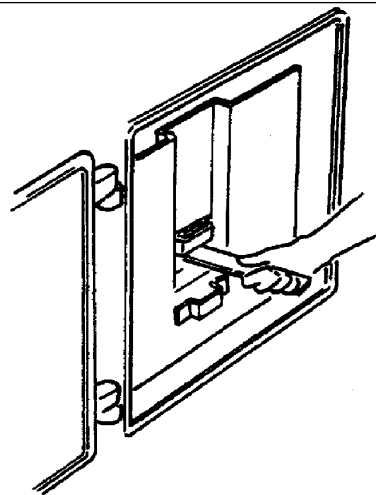

Fig. 7
- De-ash (Fig. 7) and remove dead fuel from bottomgrate, rake fuel into ashpan.
- De-ash (Fig. 7) dead fuel from bottomgrate, rake fuel into ashpan. Insert flay bayonet type gas poker on top of bottomgrate bars.